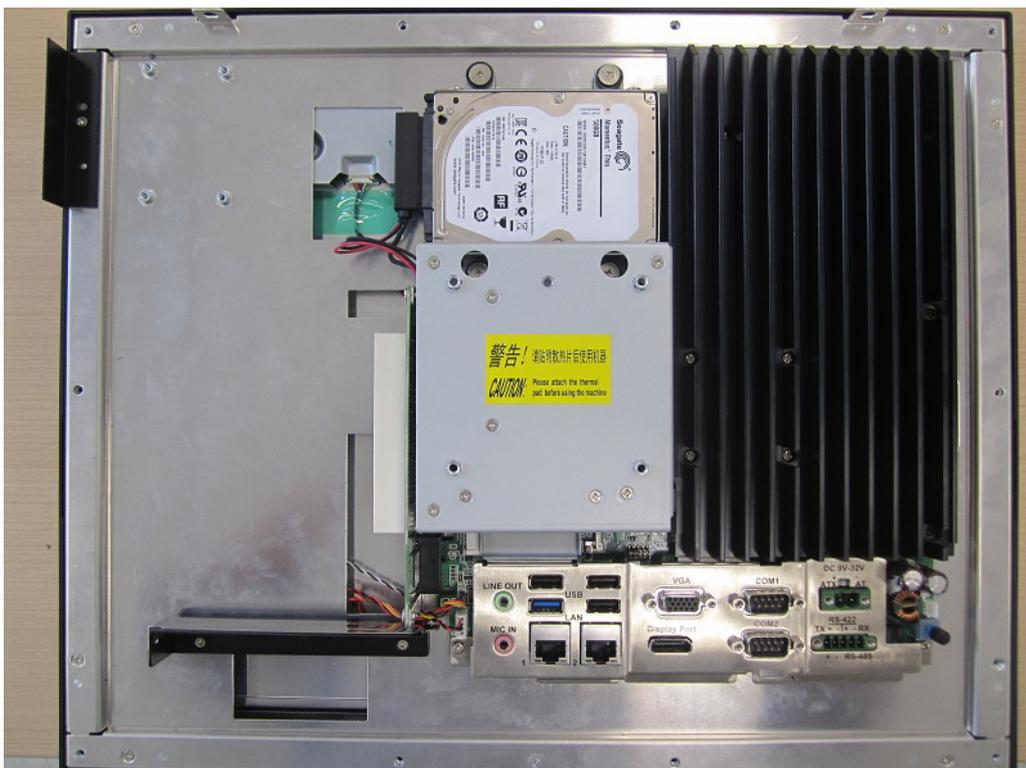

Figure 2.34
2. Take the CF module from the module box and remove the two screws on iron tray. Fix the metal tray to the bottom of the CF card, and insert it in the direction as indicated in the below figure. Then connect the SATA+SATA Power line. (See Figure 2.34)